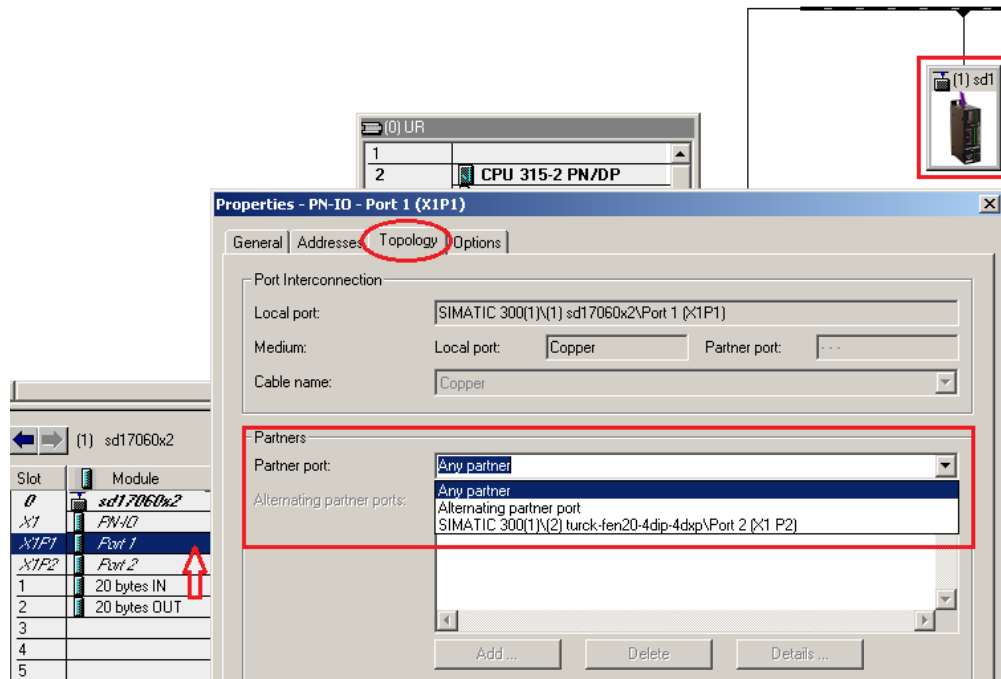

Figure A.2 Port Topology Properties
- 3) With the Networked Driver still selected, double-click on “Port 1” within unit's module list. As shown in Figure A.2, the Port 1 Properties window will open.